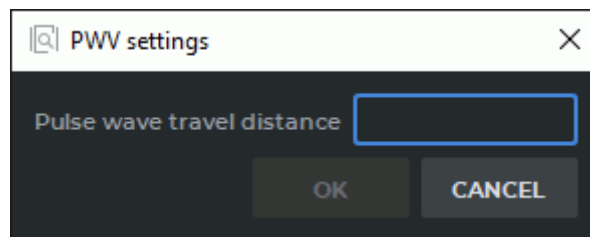

Figure 2.53: The dialog box for providing the pulse wave travel distance value
2. Go to the **PWV** tab. When you first click on the «**PWV**» tab the **PWV settings** dialog box is displayed (Fig. 2.53).
3. In the **PWV settings** dialog box (Fig. 2.53), enter the pulse wave travel distance value (in millimeters).
you have not provided the pulse wave travel distance value in the dialog box (Fig. 2.53), the **OK** button will be inactive.